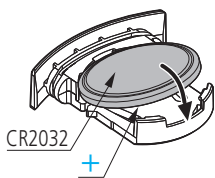

Fig. 1
4. For a digimatic type, use a CR2032 battery (**Order No. 64PTS301**). (**Fig. 1**)